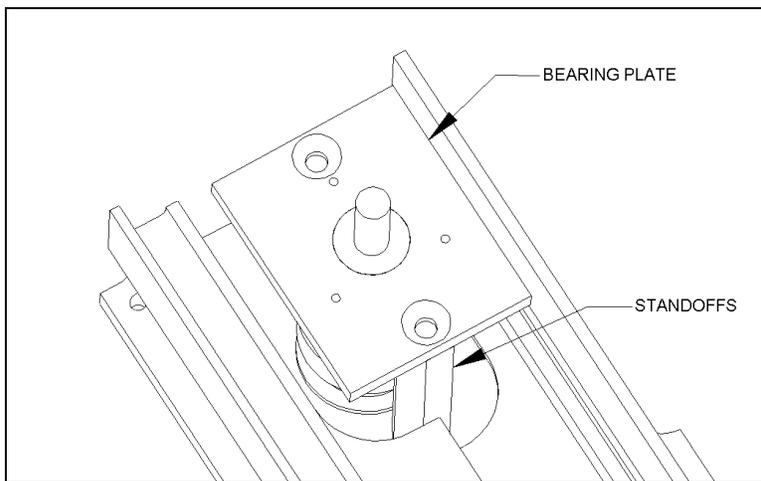

Figure 7-31 Bearing Plate Cover
- 1 Remove the bearing plate (Part No. 20400440) by removing the 2 flat head screws (Figure 7-31).